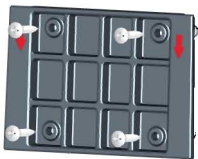

Figure 2
① Wall-mounted
- Take out the dead plate from the supporting accessories and fix the plate on the wall with expansion screws as the Figure 2 shows. (Please pay attention to the directions of arrows on the plate and make sure the directions of arrows are pointing down when it's installed.) Be sure the vertical length of the drain pipeline is more than 1.2mm.